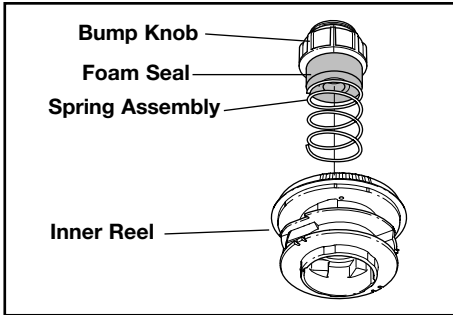

Fig. 25
2. Remove the Bump Knob, foam seal, spring, inner reel, and trimming line from the outer spool (Fig. 25).
5. Install the inner reel, spring, foam seal, and Bump Knob into the outer spool (Fig. 25).